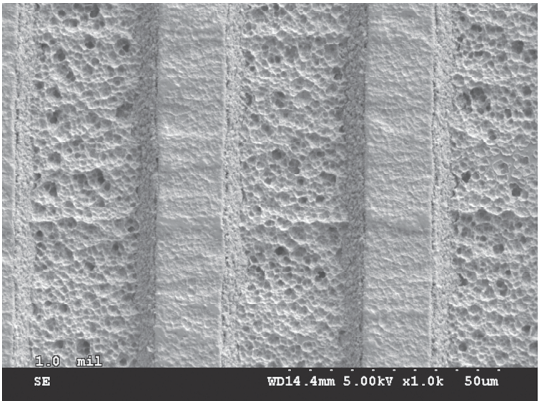

Figure 1. 150°C (302°F) Continuous Temperature
- Excellent long-term thermal exposure performance (Figure 1)